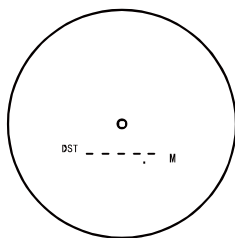

Figure 1
- Press the POWER/MEASURE button to turn the device on or off. The rangefinder enters the distance measurement mode by default (Fig. 1).